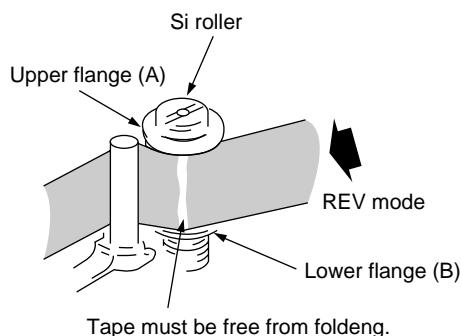

Figure 4
- (2) Adjusting the Si roller
- 2 Ascertain that the tape is not folded on the lower flange (B) of Si roller. (Figure 4)